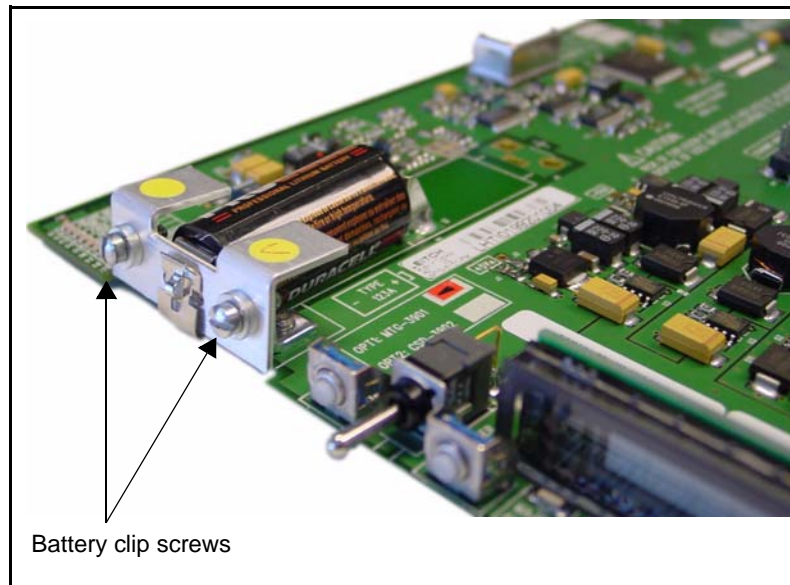

Figure 2-1. Battery Placement
1. Remove the two screws from the battery clip located at the board front edge (see Figure 2-1). The clip will fall off when the screws have reached the ends of their threads.